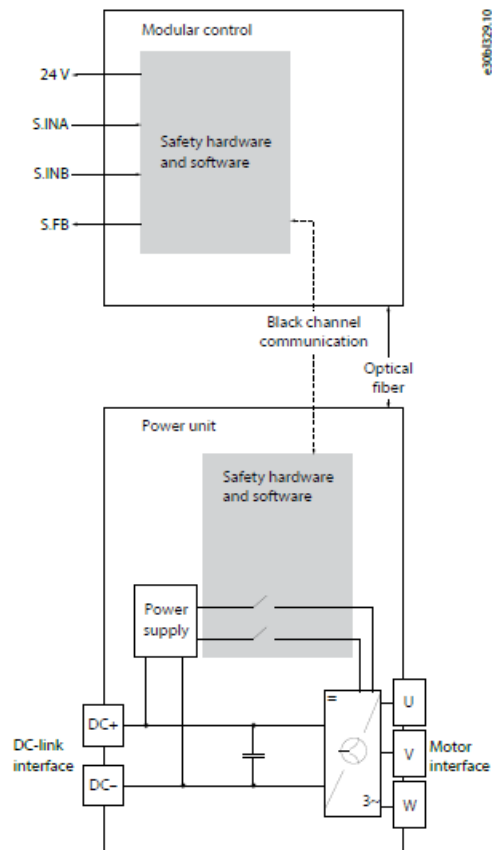

Figure 1: iC7 Functional Safety System Architecture
- Figure 1 describes the system architecture of drives with the functional safety units.